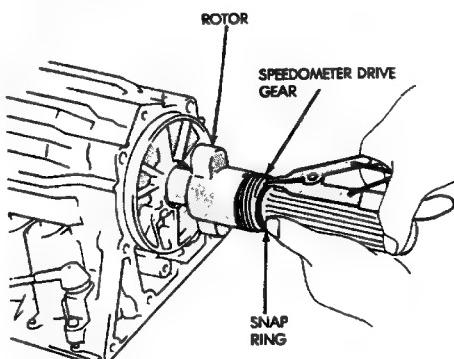
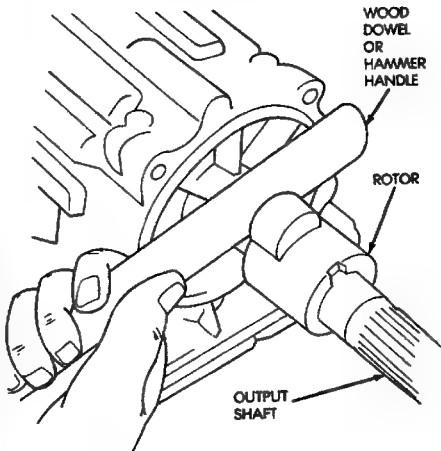

Fig. 42 Removing/Installation Speedometer Drive Gear
Fig. 43 Removing Speed Sensor Rotor
- (3) Disconnect speedometer cable and/or speed sensor.
- (4) Remove extension or adaptor housing.
- (5) Remove speedometer drive gear snap ring (Fig. 42).
- (6) Remove the speedometer drive gear and spacer (if equipped).
- (7) Remove rotor by carefully prying it off output shaft with wood dowel or hammer handle (Fig. 43).
- (8) Clean sealing surfaces of transmission case and extension/adaptor housing.
(1) Install rotor, spacer (if equipped) and drive gear on output shaft. Then install drive gear snap ring (Fig. 42).
(2) Apply bead of RTV sealer, to transmission case sealing surface and install extension/adaptor housing on case.
(3) Tighten extension/adaptor housing bolts to 34 N·m (25 ft-lbs) torque.
(4) Install components removed to gain access to rotor and drive gear.